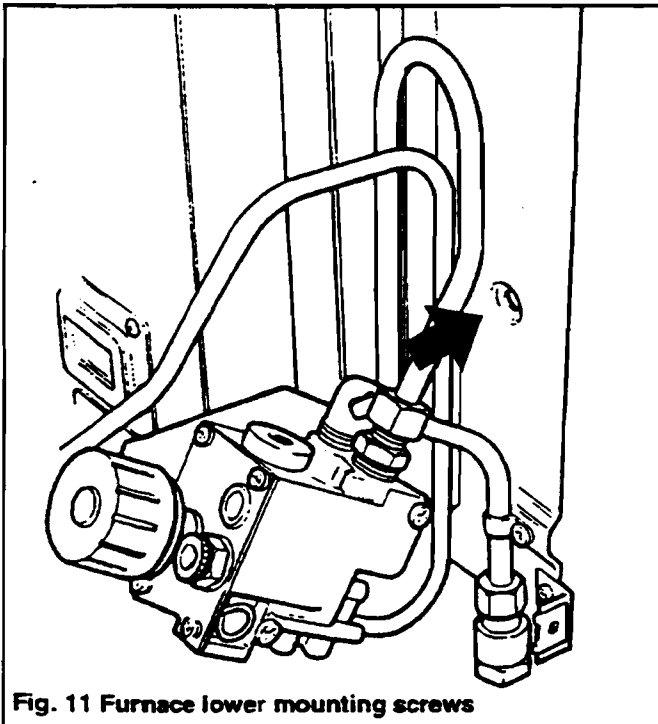

Fig. 11 Furnace lower mounting screws
- 6.8 Secure the furnace to the wall with two wood screws. Fit a wood screw through each of the holes about 5" up from the bottom of the furnace back. The screws should pass through the lower holes in the wall mounting strips and into the wall (see figure 11).